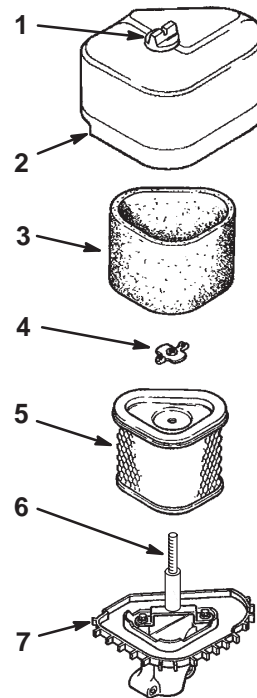

Figure 19
- Clean around the air cleaner to prevent dirt from getting into the engine and causing damage. Unscrew the knob and remove the air cleaner cover (Fig. 19).
- Remove the wing nut and slide the foam and paper air cleaner assembly off of the stud (Fig. 19).
- Carefully slide the foam element off of the paper element (Fig. 19).
- Carefully slide the foam element onto the paper air cleaner element (Fig. 19).
- Place the air cleaner assembly onto the air cleaner base (Fig. 19).
- Install the air cleaner cover and secure it with the cover nut (Fig. 19).